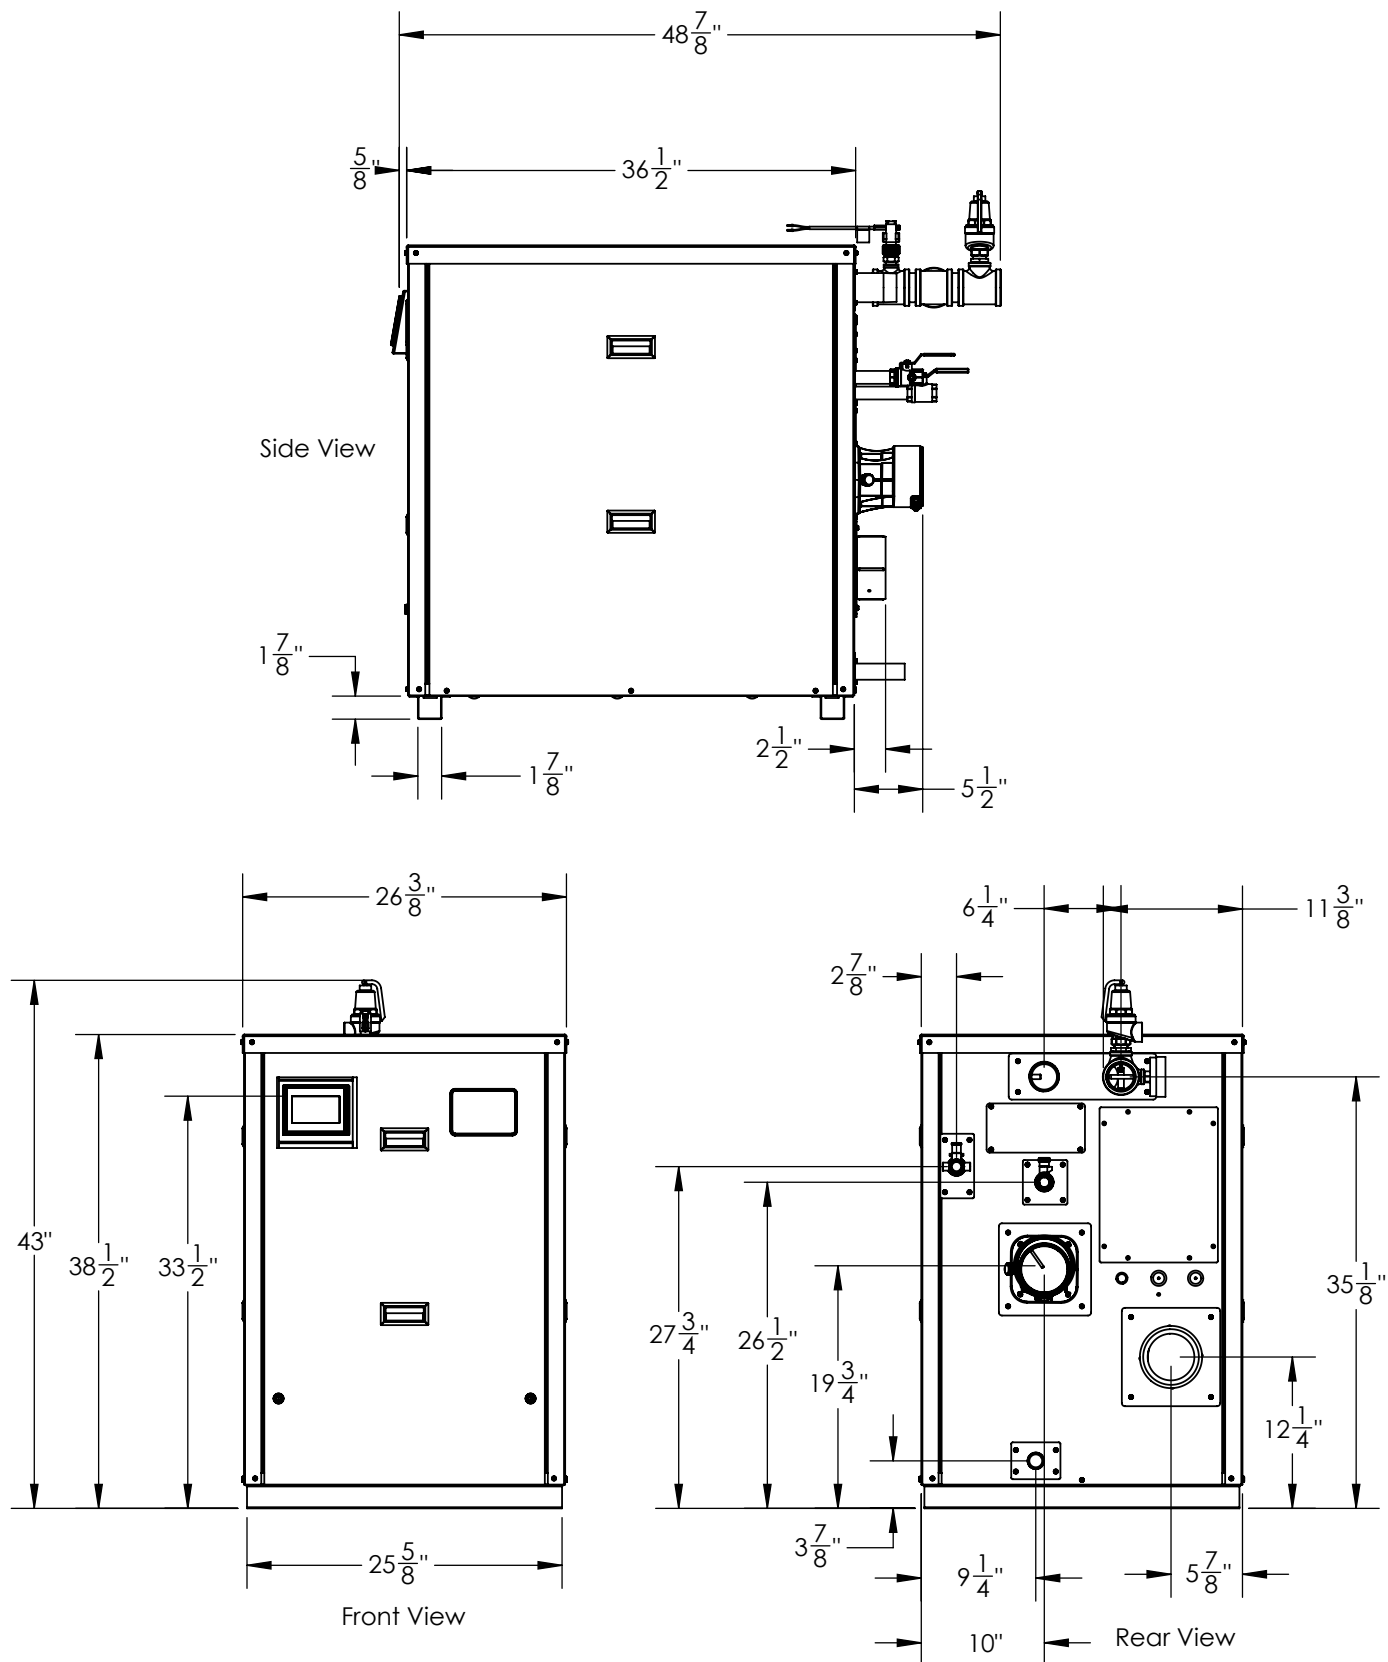
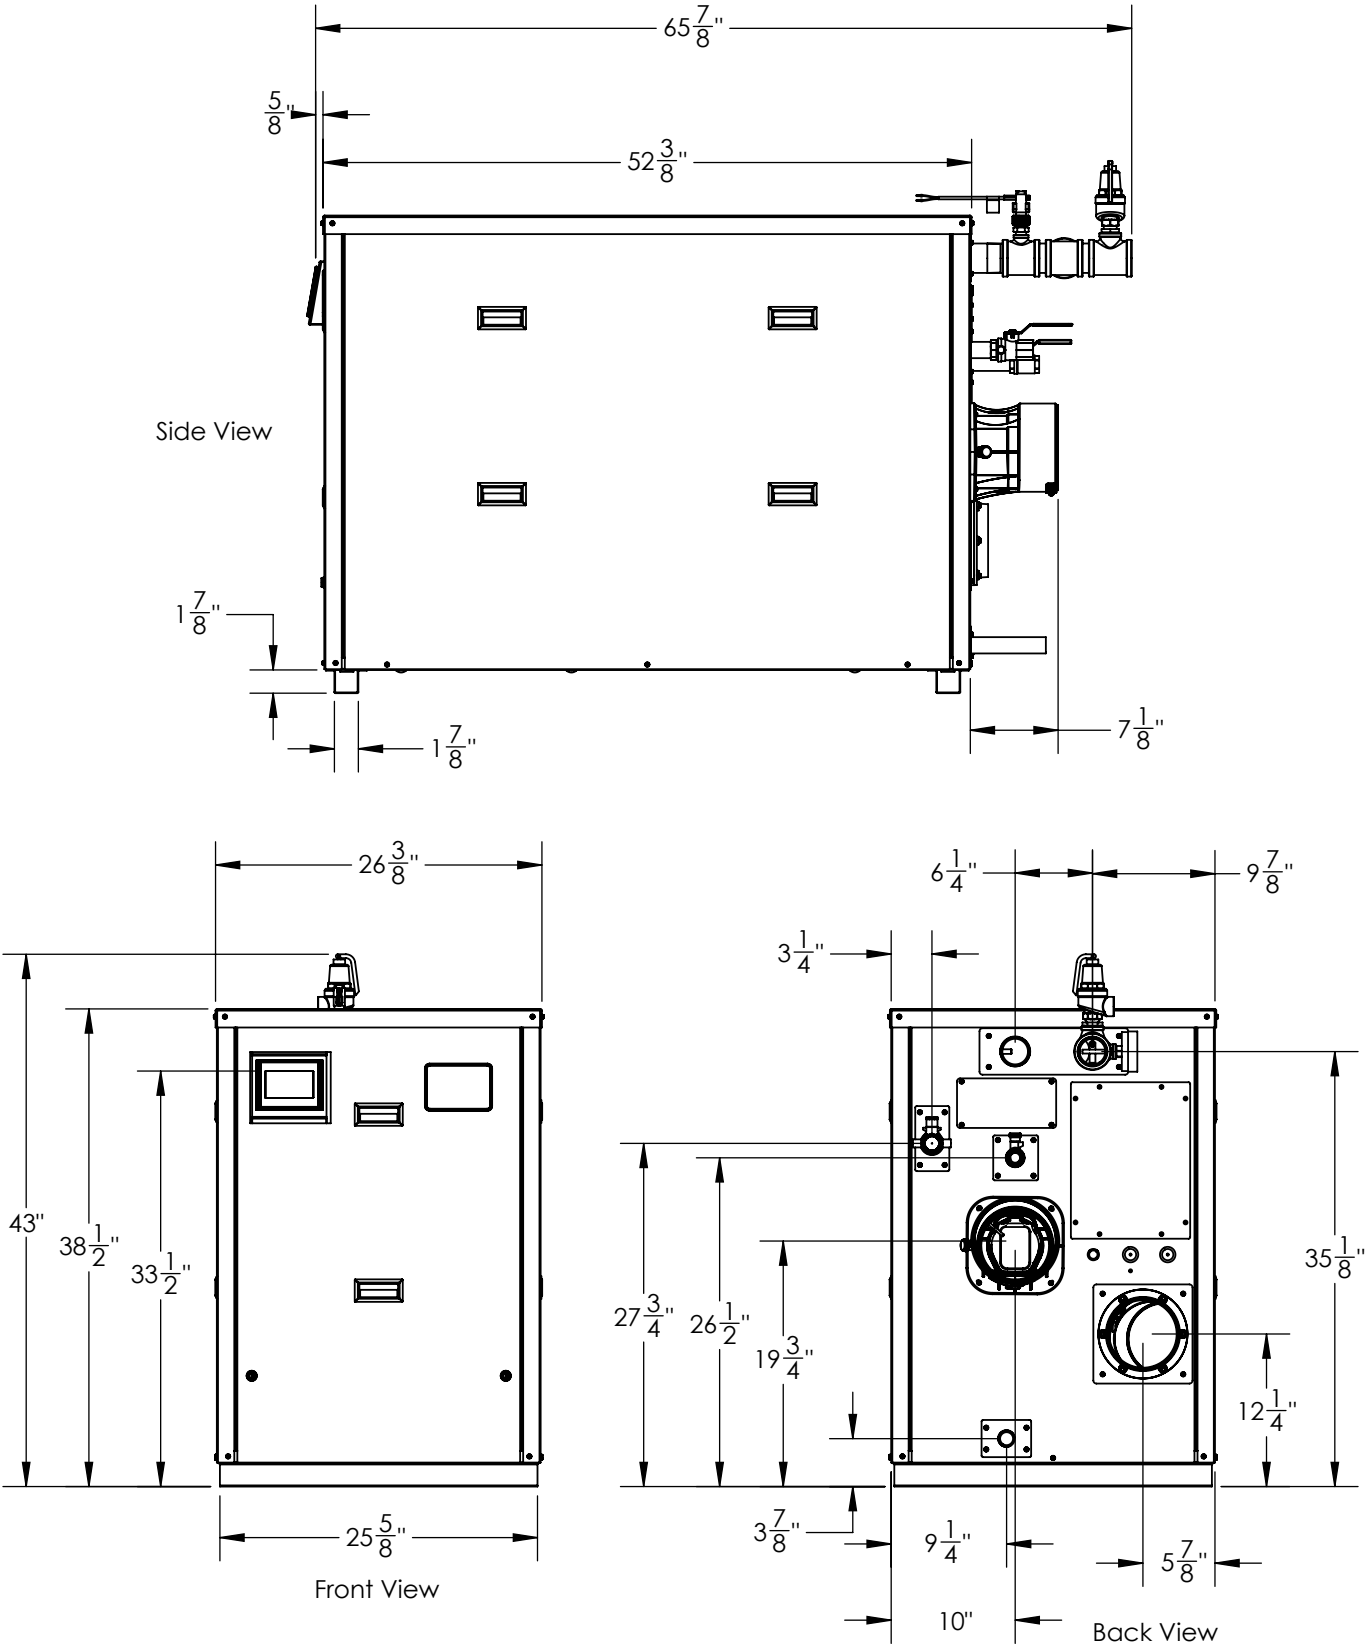

Figure 1: 400-500 Dimensions
Figure 2: 650-1000L Dimensions
6. Ensure the included polypropylene vent adapter is installed in the proper orientation. The clamp screw faces down, and the test port faces right (Gas train side). See Figure 1 and Figure 2.